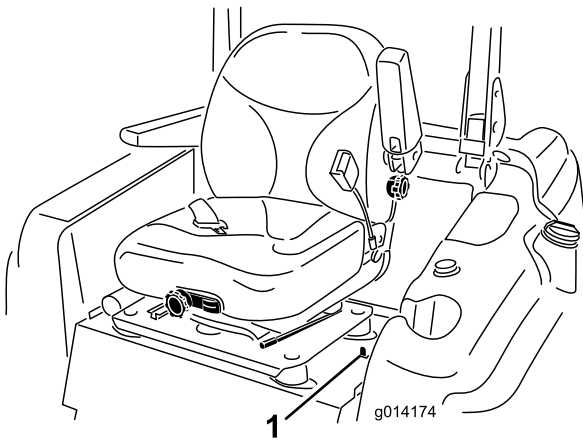

Figure 18
1. Move the seat latch, located on the left side of the seat, rearward to unlatch the seat and pull forward on the top of the seat (Figure 18).